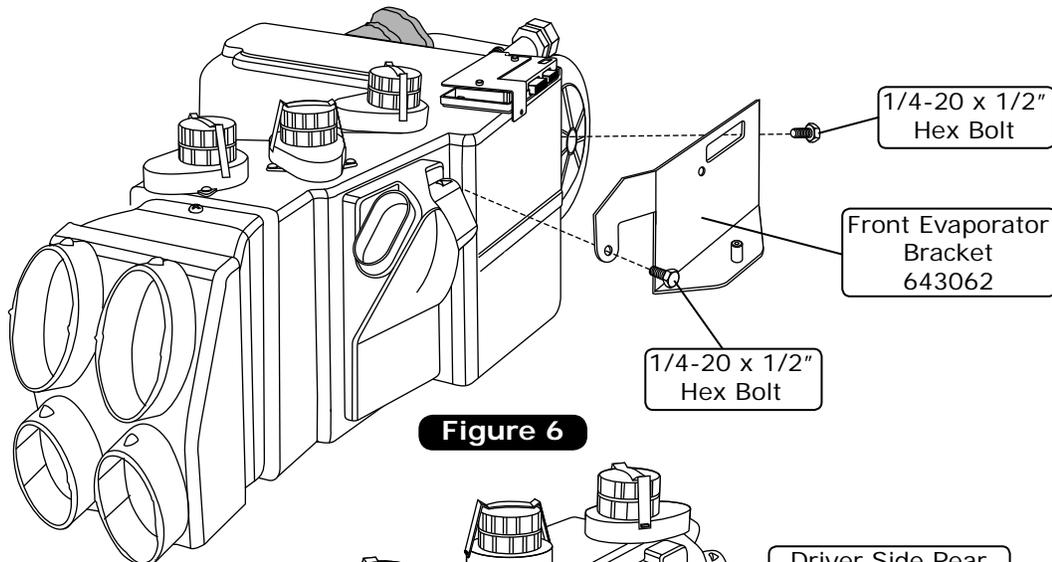

Figure 6
- On a workbench, install the evaporator front and rear mounting brackets onto the evaporator using (6) 1/4-20 x 1/2" hex bolts, and tighten as shown in Figures 6 & 6a, below.